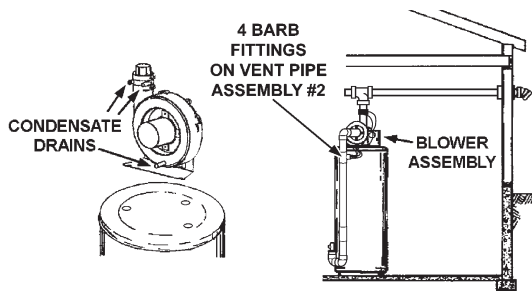

FIGURE 17.
3. The blower discharge adapter is made to accept only straight sections of 2" pipe. To start, a minimum of 2 inches (5.1 cm) of 2" pipe must be attached to the blower discharge, see Figure 17.
4. There will be some installations where condensate will be formed in the horizontal runs of the vent system. This condensate will run into the condensate boot attached to the blower and out the fitting. The water heater is shipped with condensate hose that attaches to the fitting on the condensate boot. No other Tee or fitting is required. See Figures 17, 20 and 21.
This water heater is a condensing unit and requires a drain to be located in close proximity to allow condensate to drain safely. One hose from blower housing and two flexible hoses from blower outlet adaptor, run to barb fittings on vent pipe assembly #2. Hose is clamped by rubber clips and flexible hoses by a clamp on jacket top cover. See Figure 17. Condensate drains from the unit at the exhaust tee located at the bottom of the unit (see figure 16). Condensate from this water heater is mildly acidic. Please note that some local
Condensate is likely to form in the venting system attached to this water heater. The vent pipe should be sloped downward away from the blower assembly (not less than 1/8" (3.2 mm) nor greater than 1/2" (12.7 mm) per foot (30 cm) maximum). If the vent piping is vented level or sloped upwards away from the blower assembly, then adequate means for draining and disposing of the condensate needs to be made by the installer. Two 3/8" condensate hoses should be connected to the built in drain ports of blower outlet adaptor. The unused barb fitting on vent pipe assembly #2 should be plugged with one of the break-away plugs. See Figure 17.
3. Condensate drains from three locations on blower assembly. See Figure 17. One flexible hose runs from bottom of blower housing; two run from the ports of rubber connector at the outlet of blower. All these three condensate hoses are connected to barb fittings at vent pipe assembly #2. The hose from bottom of blower housing is clamped by two clamps and the two hoses from rubber connector are harnessed by another clamp. Make sure there is no kink or twist.